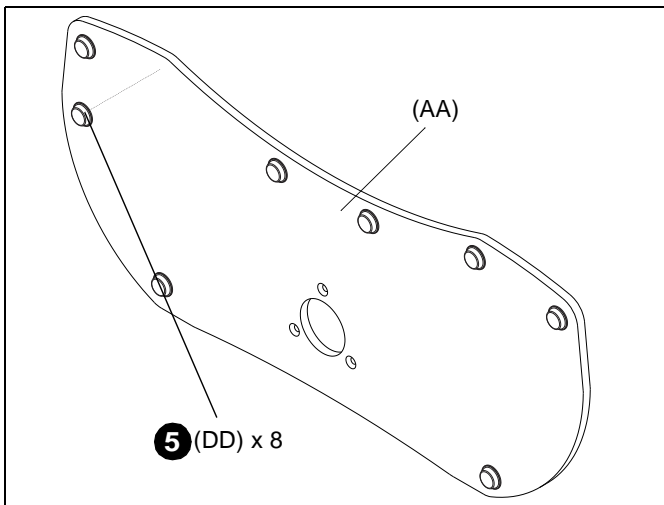

Figure 2
5. Apply eight adhesive bumpers (DD) to underside of table base (AA). (See Figure 2)